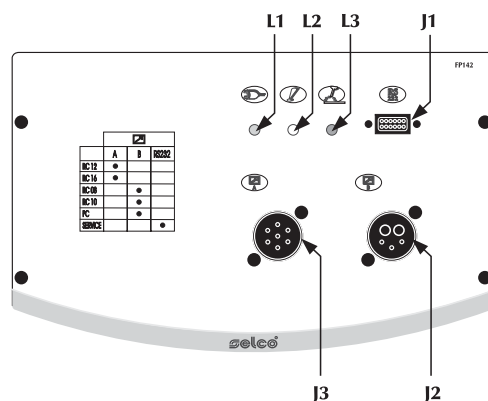

Fig.1
2.1.1 Kontrollpanel foran FP142 (Fig. 1)